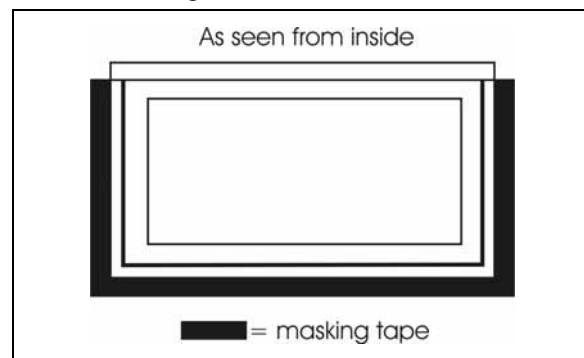

FIGURE 67: MASKING TAPE APPLICATION
4. Place masking tape on the inside of the window pane as per FIGURE 67 to protect it from smudge;